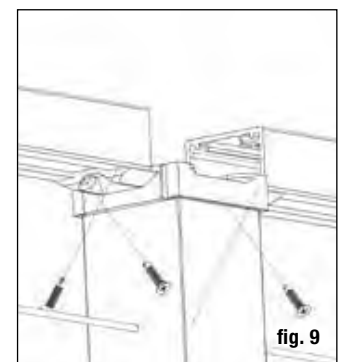

fig. 9
Step 10 Position the rail between the posts. Check for level end-to-end and vertically. Attach brackets to the post at one end. Repeat for the other end. *Tip: Use a driver extension bit to avoid marring the rail with the drill chuck. Install all rails prior to installing cable.* (fig. 9) Predrill rail using a 7/64" drill bit.